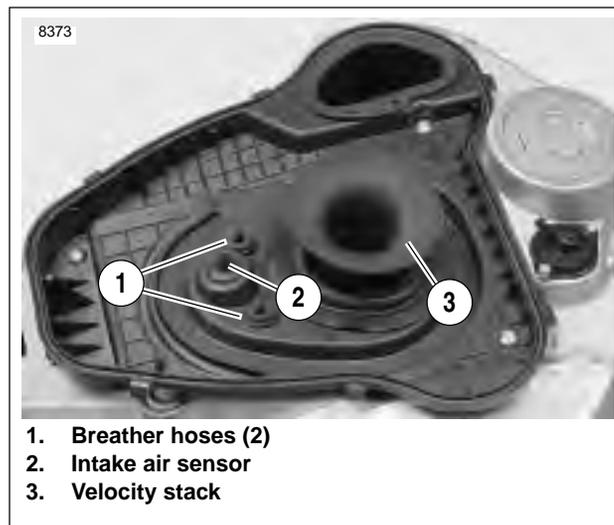

Figure 1-41. Air Cleaner Base Plate Assembly
3. See Figure 1-41. Make sure two crankcase breather hoses (1) and intake air sensor (2) are captured in base plate behind velocity stack (3).